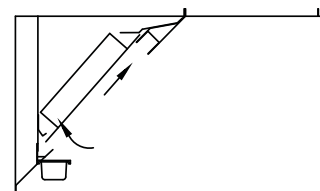

Fig. 20
1. Slide the top edge of the second stage filter into the top rear filter channel; Fig. 20.